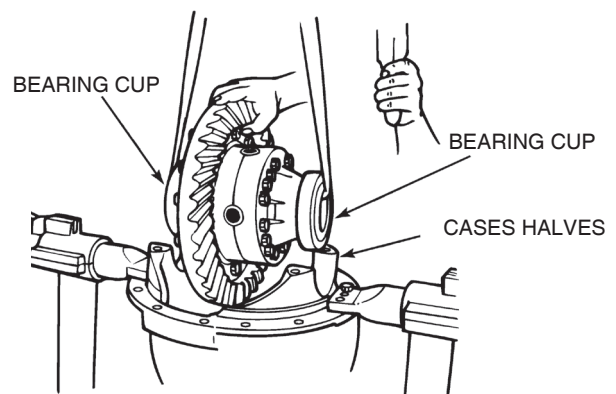

Figure 5.32
5. Install the bearing caps over the bearing cones in the case halves. Figure 5.32.
6. Safely lift the differential and ring gear assembly and install it inferential case. The bearing caps must be flat against the bores between the differential legs. Figure 5.32.